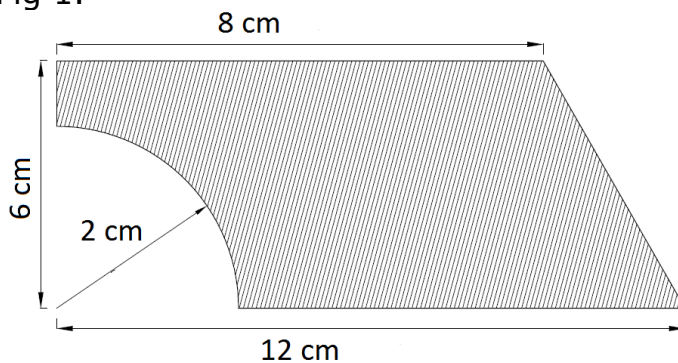

Fig 1
2. Determine the location of the centroid of the shaded area, as shown in Fig 1. (14 Marks)